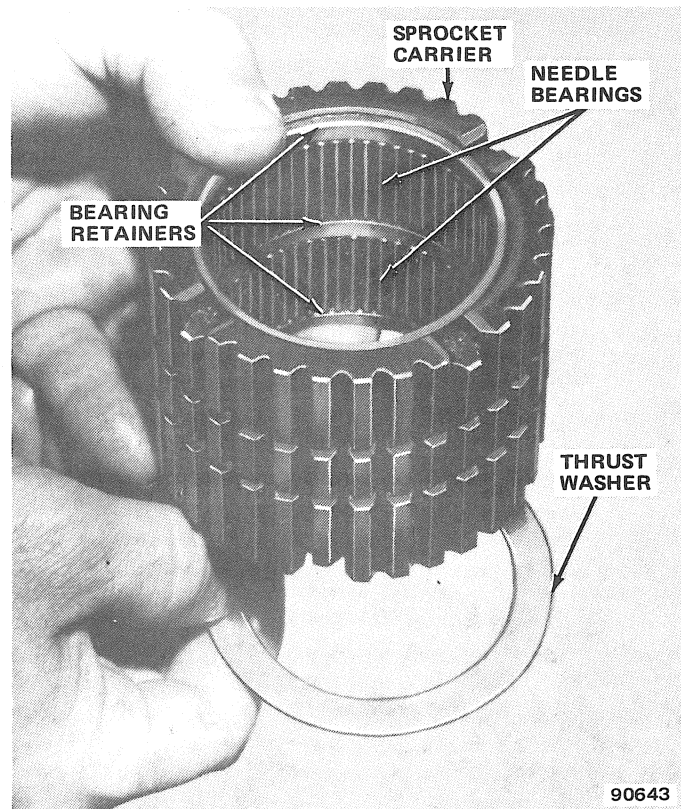

Fig. 2D-39 Assembling Sprocket Carrier Components
(19) Install clutch spring and stop ring on sprocket carrier (fig. 2D-17).
(20) Install front output shaft front thrust bearing assembly in front case (fig. 2D-16). Correct installation sequence is thick race-thrust bearing-thin race.
(21) Install front output shaft.
(22) Install sprockets and drive chain as assembly. Position sprockets in chain, align sprockets with shafts and install assembly (fig. 2D-15).
(23) Install spacer and thrust washer on drive sprocket (fig. 2D-14) and install sprocket retaining snap ring.
(24) Install driven sprocket retaining ring (fig. 2D-13).